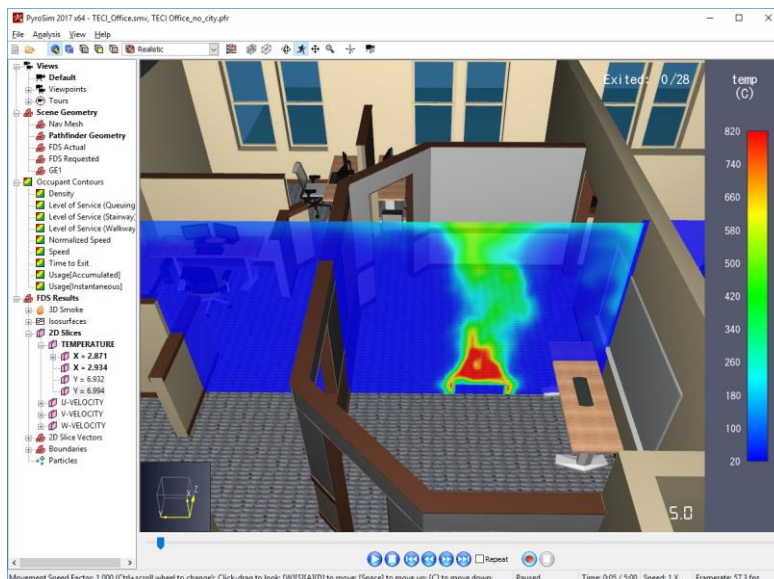

Figure 7-4: Results colorbar
- If necessary, a colorbar is added to the right side of the main window as shown in Figure 7-4. The colorbar can be edited as described in Colorbars on page 43.
With the exception of 3D Smoke and Particles viewed with the `Default` coloring, all FDS results data is colored with a colormap. A colormap provides a way to map data values to a color that can be displayed on the screen. When a colormap is in use, it will be shown as a colorbar on the right side of the 3D View as shown in Figure 7-4.
The colorbar shows the colormap as well as which data values are mapped to the colors. At the top, it also shows an abbreviation of the quantity and the quantity's unit in parentheses. In Figure 7-4, the label "temp" corresponds with the quantity, `TEMPERATURE`, and the unit is "C" for degrees Celsius.